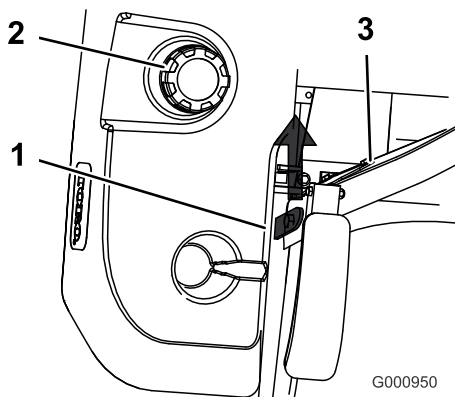

Figure 30
3. Raise the seat up. This allows access to the machine under the seat (Figure 30).